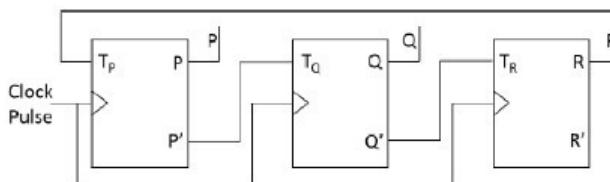

Fig. 6.4
3. Consider a 3-bit counter, designed using T flip-flops, as shown below in Fig. 6.4